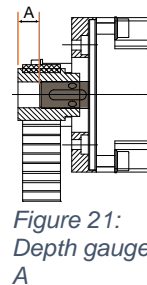

Figure 21:
- ◆ Measure and note depth "A" from toothed pulley to motor / gearbox shaft before dismantling the toothed pulley (please refer to Figure 21: Depth gauge A).